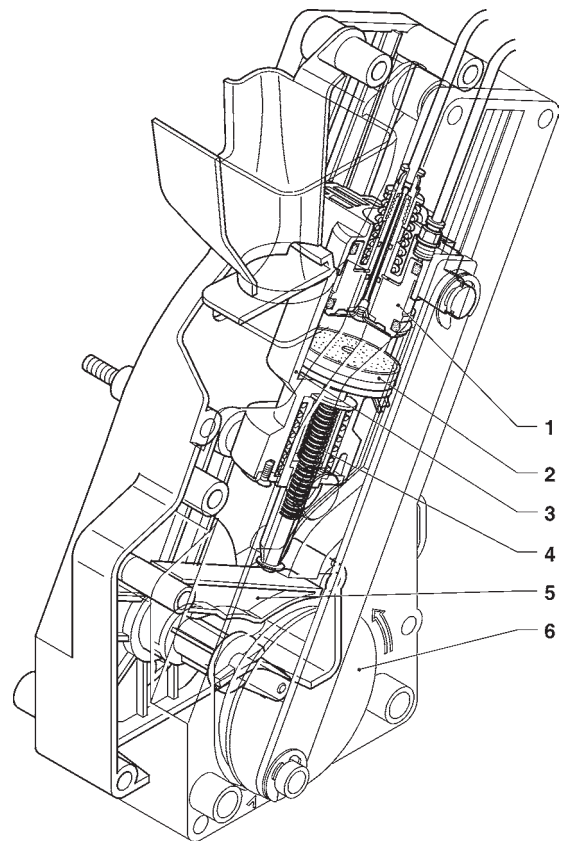

Fig. 16
By completing the rotation of the ratiomotor (see Fig. 16) the pistons and the coffee dose are lifted by means of the swinging lever (6).